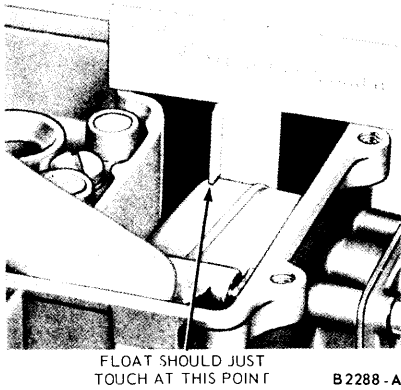

FIG. 4—Fuel Level Float Adjustment (Dry)
2. With the float raised and the fuel inlet needle seated, check the distance between the top surface of the main body and the top surface of the float for conformance to specifications. Take the measurement at a point $\frac{1}{8}$ inch from the free end of the float and $\frac{3}{16}$ inch in from the side of the float adjacent to the inside wall of the fuel bowl. If the cardboard gauge is used, place the float gauge in the corner of the enlarged end section of the fuel bowl (Fig. 4). The gauge should touch the float near the end, but not on the end radius. Depress the float tab to seat the fuel inlet needle. The float height is measured from the gasket surface of the main body with the gasket removed. If necessary, bend the tab on the float to bring the setting within the specified limits. This should provide the proper fuel level.